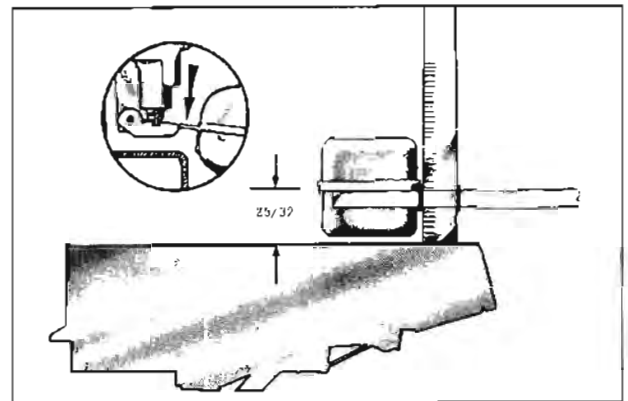

Fig. 9-156 Float Level Adjustment
### FLOAT LEVEL ADJUSTMENT (Fig. 9-156)
- Bend the float arm, as shown in Fig. 9-156.